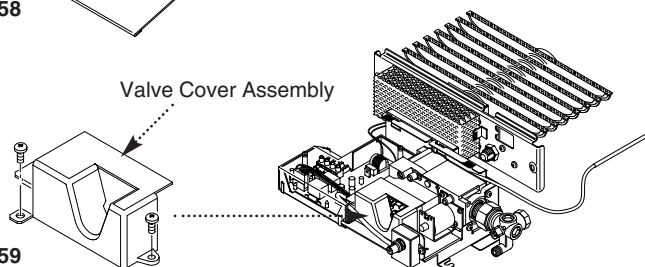

Fig. 59
2. Remove the screws holding the valve cover assembly to the controls mounting bracket and remove the assembly (Fig. 59).